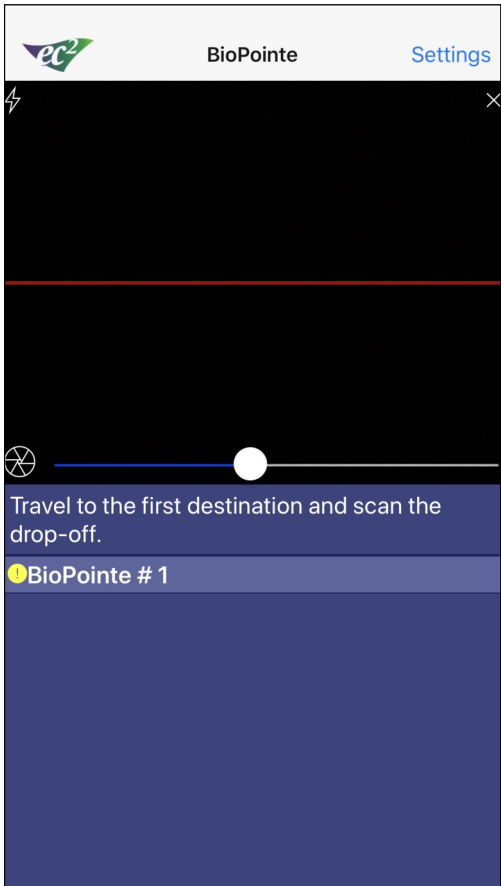

Fig 7
- f. Arriving at the delivery location. Scan facility barcode at location. See Fig 7